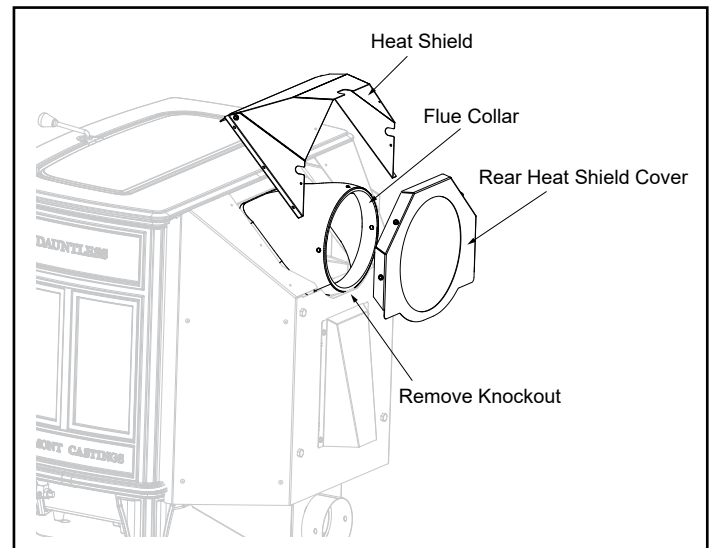

Figure 5.11
3. Turn flue collar to horizontal position. Inspect rope gasket located on the rear cast housing to ensure a leak free seal. Re-install flue collar, heat shield and heat shield cover, Figure 5.11.
Note: There is a knockout on the rear air jacket that will need to be removed prior to installing the flue collar for it to fit properly to the unit, Figure 5.11.